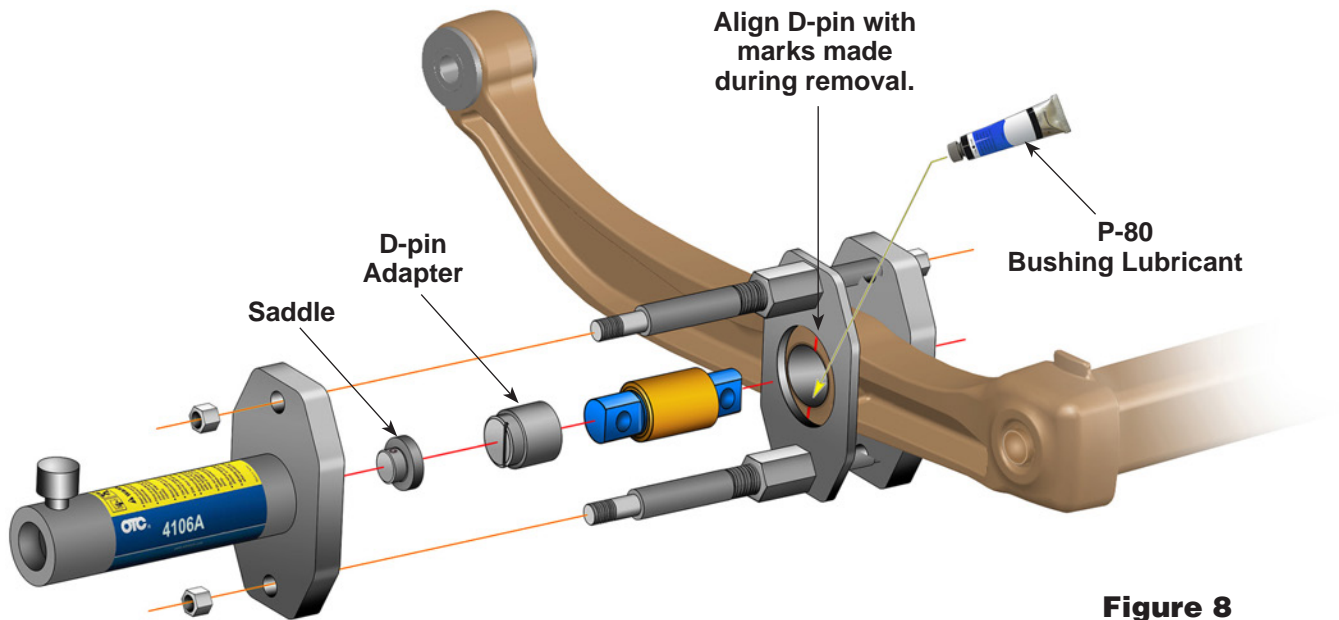

Figure 8
1. Clean and thoroughly lubricate the entire surface of the inside diameter of the beam and outer bushing. See Figure 8.